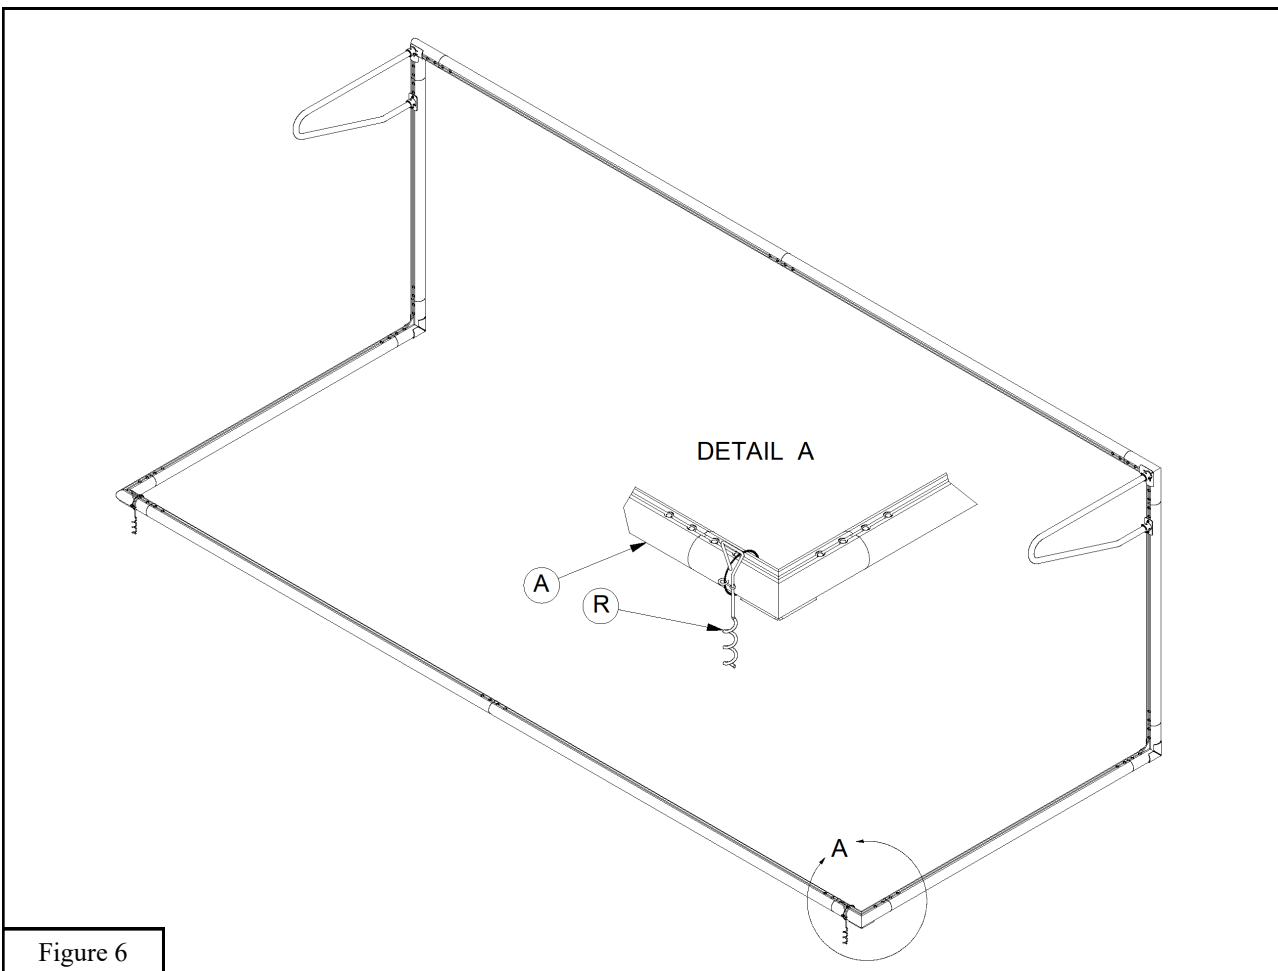

Figure 6
12. Install *Net Attachment Clips* (Q) into the slots in each *Upright* (C), front and rear *Crossbar* (A) and *Ground Extension* (D). The *Net Attachment Clips* (Q) slip into the slot and twist  $90^\circ$  into position. You have been provided enough *Net Attachment Clips* (Q) to position one every 20"-24".
13. Drape the *Net* (S) over the top of the *European Backstays* (K) and attach to the *Net Attachment Clips* (Q) on the rear face of the goal. Position clips to suit. A rope is woven into the *Net* (S) behind the top front to attach to the left hand and right hand *European Backstays* (K) to help support the *Net* (S)
14. Prior to play, the rear of the goal must be secured to prevent accidental tip over. If the goal is being used on artificial turf and cannot use *Auger Style Hold Downs* (R), goals must be weighted with rear ballast bags or by other methods. Consult a Bison Product Specialist.
15. Position *Auger Style Hold Downs* (R) in the rear corners of the goals. Once the *Auger Style Hold Downs* (R) are fully rotated into the ground, clip the chain around the rear lower *Crossbars* (A). See Figure 6.